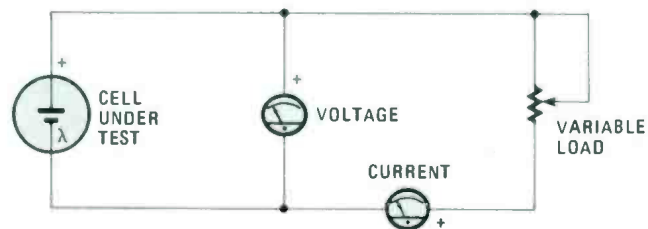

Fig. 2—Diagram of a simple solar cell tester.
Fig. 2—Assemble the Yelping Siren circuit provided in Fig. 1 on a solderless breadboard the first time. You may want to add an audio amplifier. A printed-circuit board duplicating the connection terminations of the solderless board can be used later to hard-wire the unit.
The layout of components for the Yelping Siren is shown in Fig. 2. The Yelping Siren shares a Global Specialties type 300 solderless board with a small audio amplifier. (The amplifier is described next).
**Fig. 2—Here's how the Low-Power Audio Amplifier looks wired on a solderless breadboard. The parts are so positioned that they can share a board with the *Yelping Siren*.**
Whenever using any power source, it is imperative that we understand how the voltage and current interact with each other and with the load. In most cases, Ohm's law establishes the relationship. Unfortunately, silicon solar cells are non-linear devices, and there is no simple formula expressing that relationship. Instead, we will use a family of easily understood curves (Fig. 1) to demonstrate the solar cell's characteristics. Also, by using the circuit in Fig. 2, we can explain the electrical behavior exhibited in Fig. 1 in more detail.
Looking at Fig. 2, you see that we are monitoring both the voltage and the current output of the solar cell as it passes through a variable resistance load. We will assume that the light intensity is stable for the duration of the test.
As we have already demonstrated, you can use the circuit shown in Fig. 2 to test your solar cells. As a matter of fact, that is a quick and easy way to do it. Simply place the cell across the circuit, adjust the voltage with the potentiometer, and note your readings. Power is calculated by product of the output voltage (in volts) and the current (in amperes).